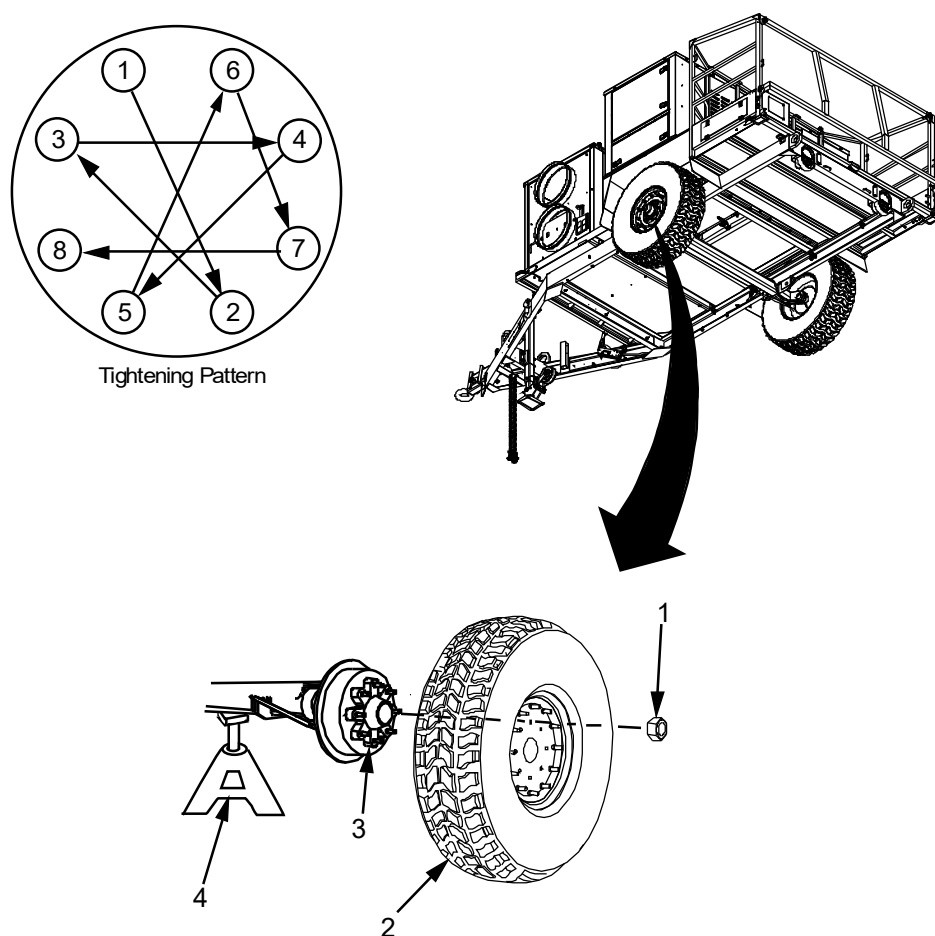

Figure 1. Wheel Assembly Removal/Replacement.
5. Loosen but do not remove eight lug nuts (Figure 1, Item 1).
6. Place 3 ton hydraulic jack under trailer frame near wheel assembly (Figure 1, Item 2) to be removed.
If tire is flat when performing the following step, trailer will need to be raised to a height sufficient enough to install a fully inflated wheel assembly (Figure 1, Item 2).
7. Using three-ton jack, raise trailer to sufficient height where fully inflated wheel assembly (Figure 1, Item 2) may be installed.
8. Place three-ton jack stand (Figure 1, Item 4) under trailer axle between wheel assembly (Figure 1, Item 2) and axle mount. Raise jack stand (Figure 1, Item 4) to meet trailer axle. Lower trailer onto jack stand (Figure 1, Item 4).
9. Remove and retain eight lug nuts (Figure 1, Item 1).
10. Remove wheel assembly (Figure 1, Item 2) and set aside.
1. Verify that trailer is high enough to accept wheel assembly (Figure 1, Item 2).
2. Install wheel assembly (Figure 1, Item 2) by aligning lug nut studs (Figure 1, Item 3) with corresponding holes in wheel assembly (Figure 1, Item 2).
3. Keeping wheel assembly (Figure 1, Item 2) straight up and down, slide wheel assembly (Figure 1, Item 2) onto studs (Figure 1, Item 3) and hold back. Install eight lug nuts (Figure 1, Item 1) and tighten finger tight.
5. Place three-ton hydraulic jack under trailer frame (near wheel assembly (Figure 1, Item 2) being replaced and raise trailer high enough to remove jack stand (Figure 1, Item 4).
6. Slowly lower trailer so that wheel assembly (Figure 1, Item 2) is supporting weight of trailer.
7. Using a crossing pattern, verify that all lug nuts (Figure 1, Item 1) are tight. Torque lug nuts to 100 ± 5 lb – ft (136 ± 7 N·m).